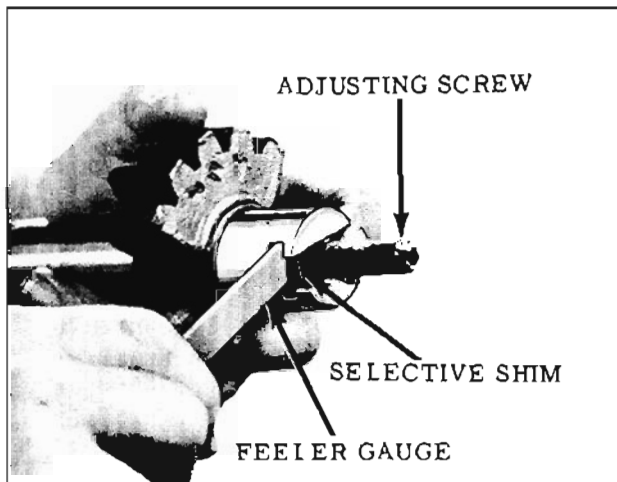

Fig. 8-12 Checking End Clearance
1. Check the end clearance of the adjusting screw in the slot of the pitman shaft. (Fig. 8-12) The screw should rotate freely but not have more than .002" clearance. If clearance exceeds .002", select the proper shim to bring the clearance to specification. (Shim thicknesses are .063", .065", .067", and .069")